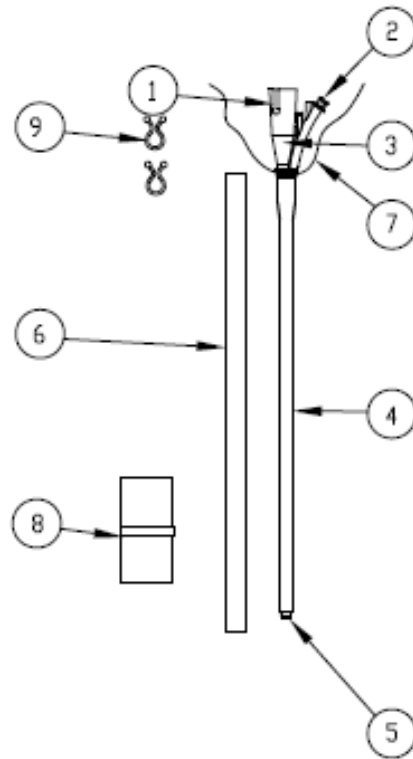

Figure 3-4: BF-0 Slide-On® EndoSheath® Technology
- The **BF-0 EndoSheath® Technology** (Figure 3-4 on page 16) has no working channel and does not support the use of accessory instruments.
04-4105	BF-0 Diagnostic Slide-On® EndoSheath® Technology (No Channel) (Figure 3-4)